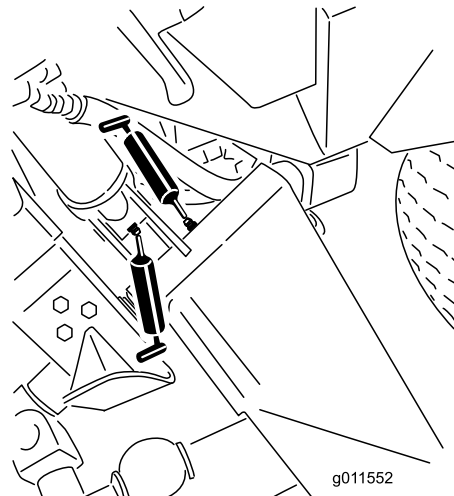
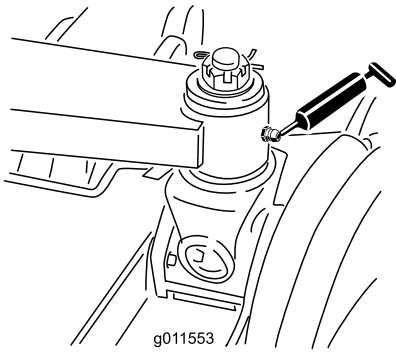

Figure 67
Figure 68
- Main lift arm bushings (6) (Figure 67 and Figure 68)